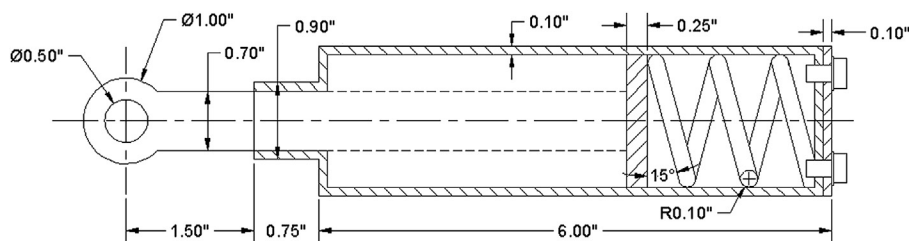
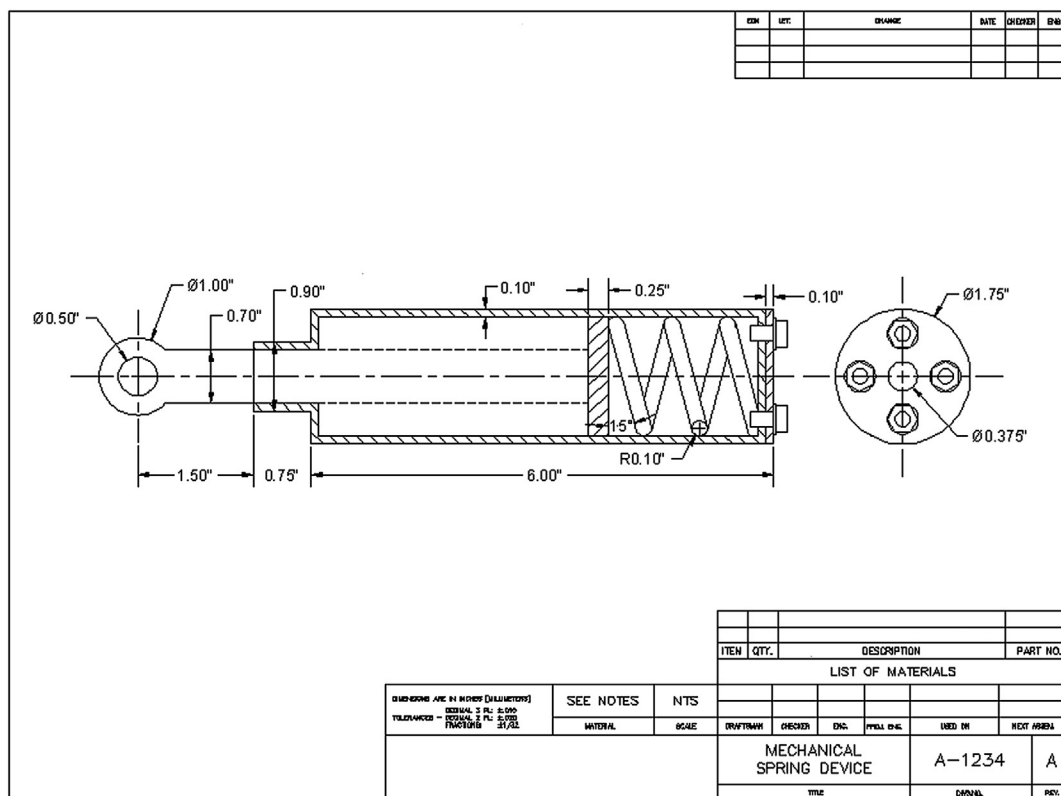

FIGURE 8.32
FIGURE 8.33
A full-page view of the completed device is found toward the end of the chapter, see Figure 8.33. Take a good look at it and decide on a strategy to draw it. Over the course of the next few pages, you will see a step-by-step process to actually do it. Follow the steps carefully, and do not worry about the thick border; that is a polyline, to be covered in Level 2. The title block is otherwise just a simple collection of lines and text.
Step 12. Finally, add dimensions (Figure 8.32) and a title block (Figure 8.33) by use of rectangles. The title block and its contents are typical of a mechanical engineering drawing.